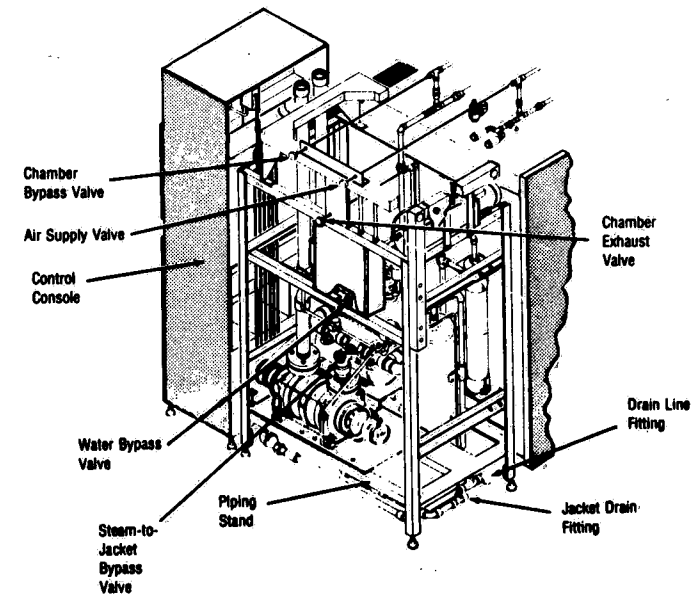

Figure 2-3. MANUALLY OPERATED VALVES.
2. Open Water and Steam-To-Jacket By-Pass Valves (Fig. 2-3).
- Manually open the Water Bypass Valve (Figure 2-3) allowing water to flow to drain.
- Manually open Chamber Bypass Valve (Figure 2-3).